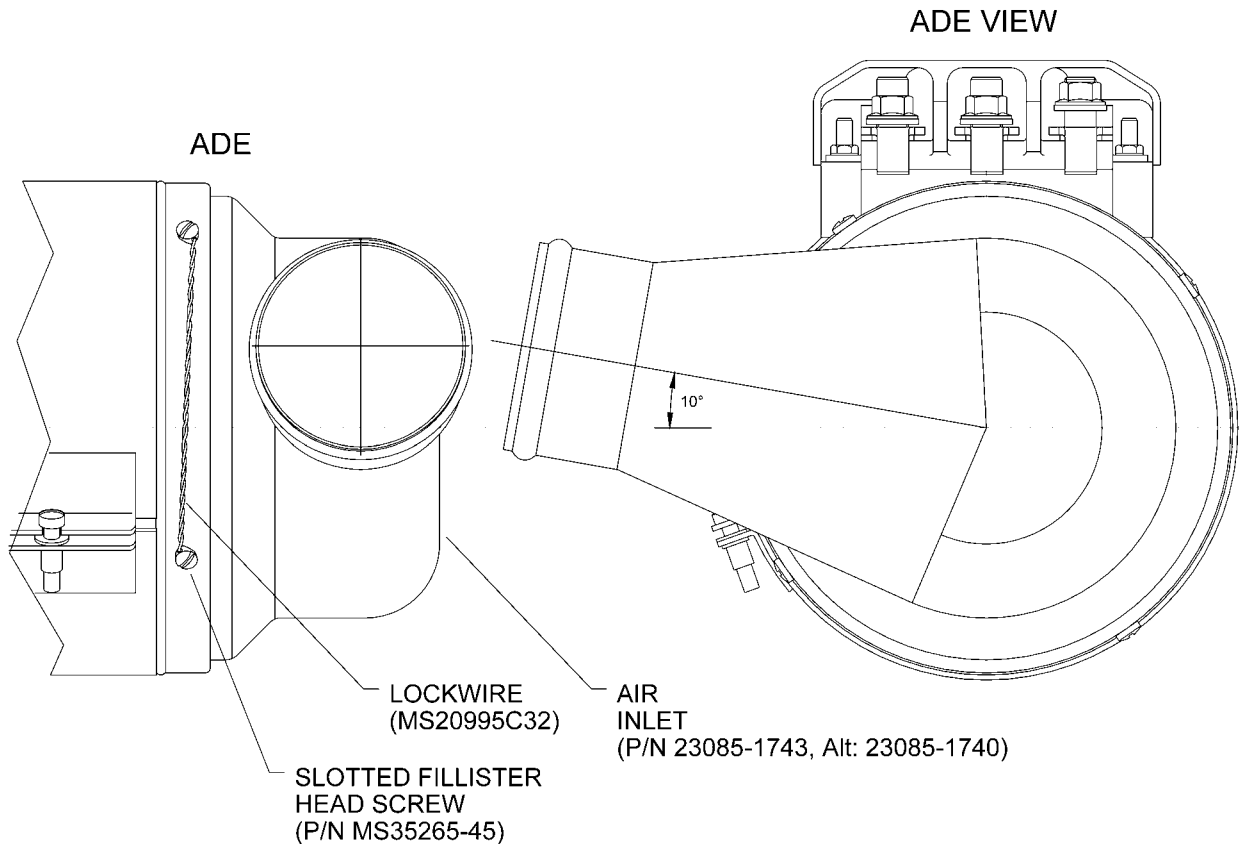

Figure 7 - Attaching Air Inlet
- (13) Install brushes as specified in the ASSEMBLY section of the referenced CMM and IAW SPD (Special Practice Document 1006).
- (14) Attach air inlet (P/N 23085-1743, Alt: P/N 23085-1740). See Figure 7.